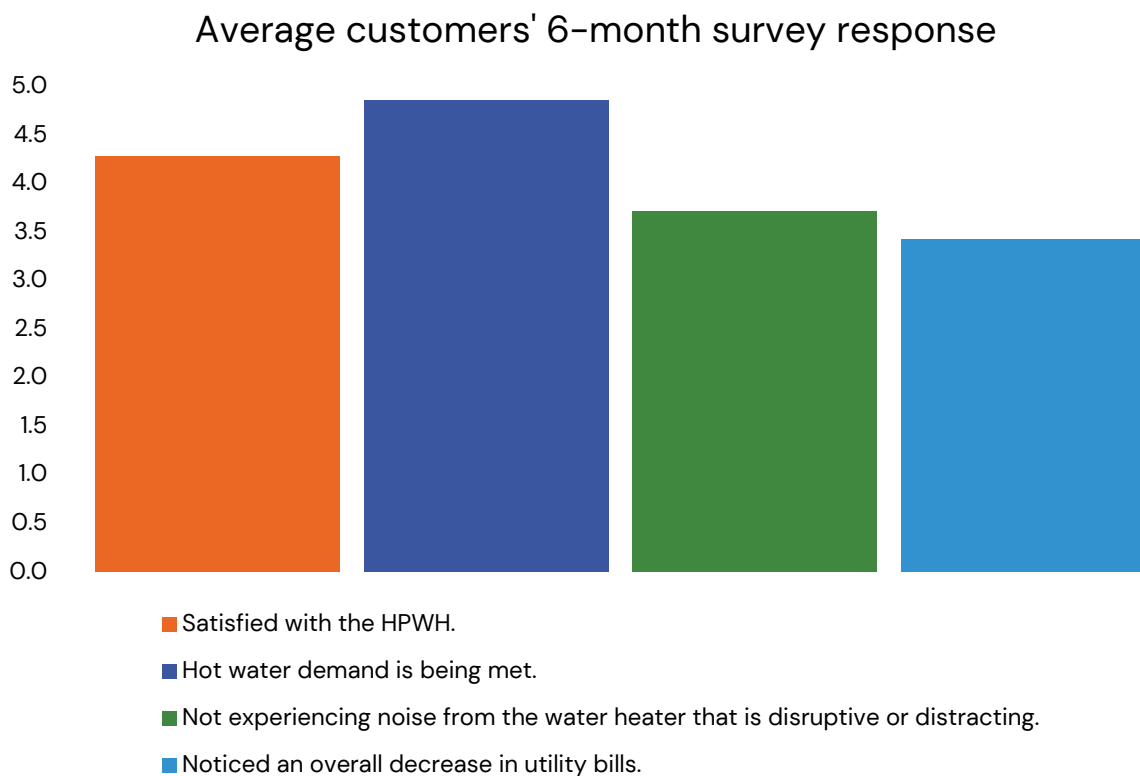

Figure 2: Summary of six-month survey results
- No customers reported cold water events. A sampling of the data confirms that upper tank temperatures generally stayed within standards for hot water, as evidenced in Table 8 and Figure 2 below.